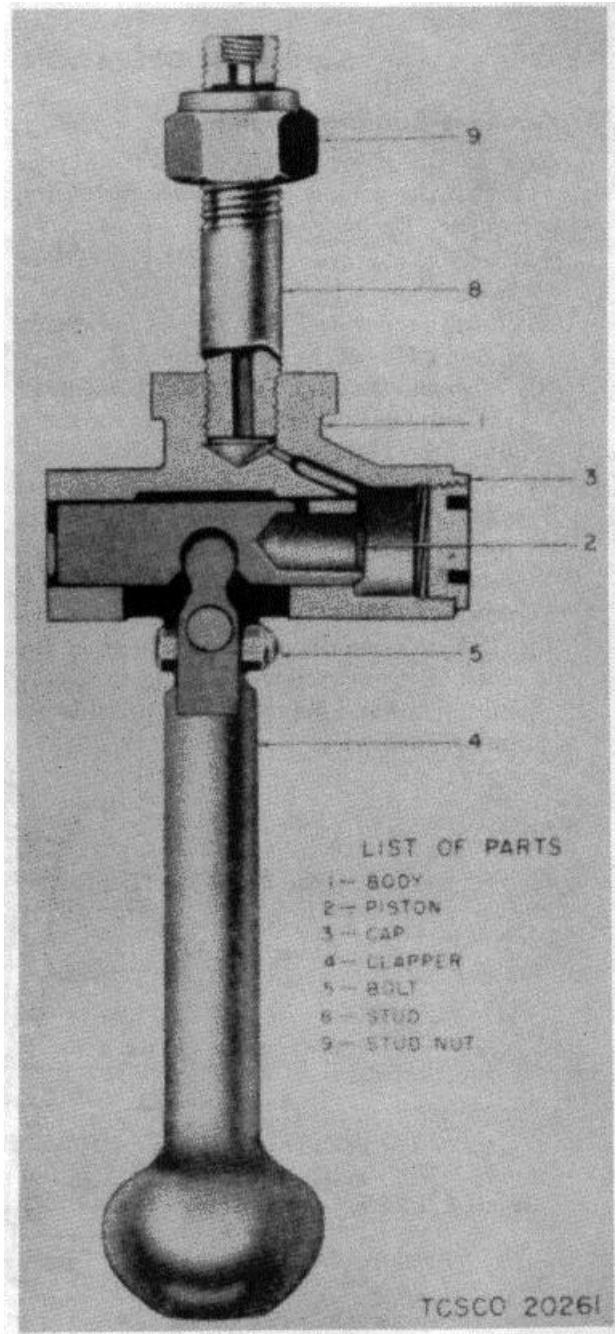

Figure 3. Internal bell ringer.
a. Air from control valve enters through hole in stud (8) and 1/16" orifice in body (1). Pressure moves piston (2) swinging clapper (4) until exhaust port in piston is uncovered. Since exhaust port has larger area than inlet port, pressure in cylinder is instantly exhausted and clapper rebounds moving piston in reverse direction. Exhaust port is covered and air pressure again builds up in cylinder for the next cycle (fig. 3).